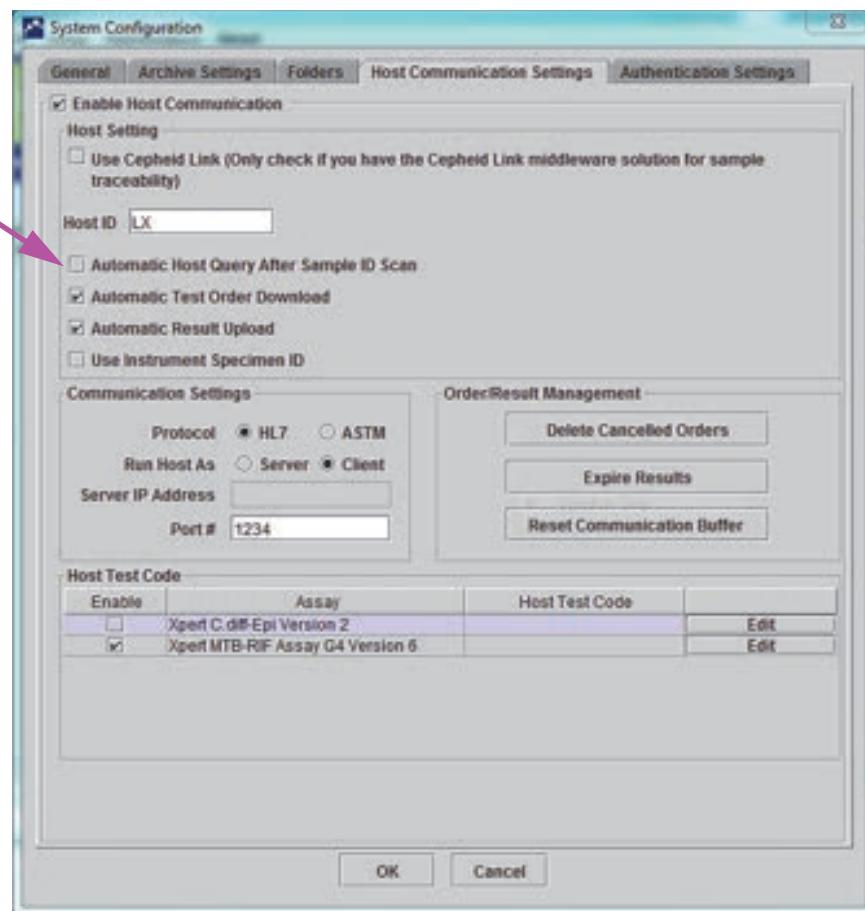

Figure 5-95. Select Host Query
- In the Host Communication Settings tab of the System Configuration dialog, click on the Automatic Host Query After Sample ID Scan check box to select and enable this function. See Figure 5-95.